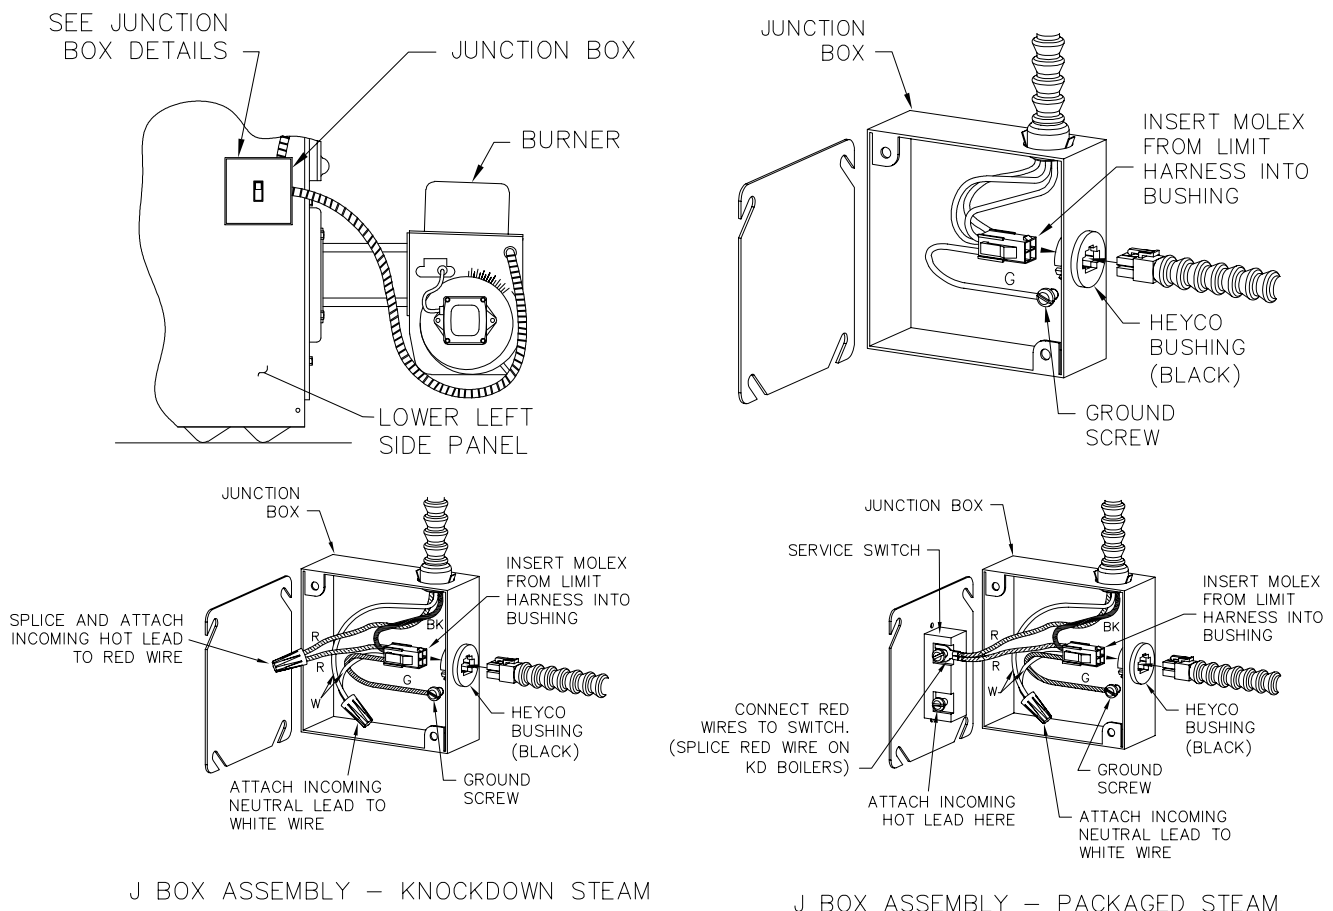

Figure 4.1: Junction Box Wiring and Harness Assembly
2. Install junction box, limit harness, and Heyco bushing, each located in the trim carton. See Figure 4.1. Mount junction box to the holes in the left side of jacket with (2) #10 x 1/2" sheet metal screws. Attach Heyco bushing to 7/8" knockout in front side of junction box. Connect limit harness to 7/8" knockout on top of junction box and insert limit harness Molex connector into Heyco bushing until it snaps firmly in place.